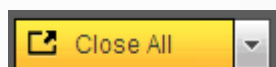

Figure 7-4
- **Section 2:** There are channel number and one button: Start all. Start all button is to enable/disable all-channel real-time monitor. Click it the button becomes yellow. See Figure 7-4.